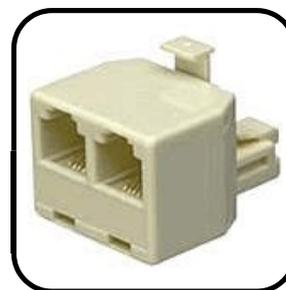

Figure 1 — RJ-11 Splitter
1. Connect the desired 960B analog port to the dialing end of the circuit by using an RJ-11 jack splitter similar to the one pictured in *Figure 1*.